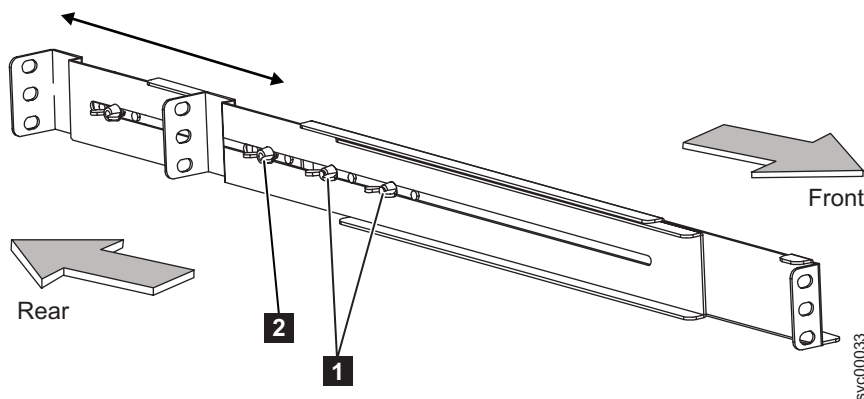

Figure 28. Adjusting the rail depth on the 2145 UPS-1U
4. Loosen the assembly wing nuts (**1** in Figure 28) on both rail assemblies and adjust the rail size to the depth of your rack. After you adjust the depth, tighten the assembly wing nuts as much as possible while still allowing some movement.